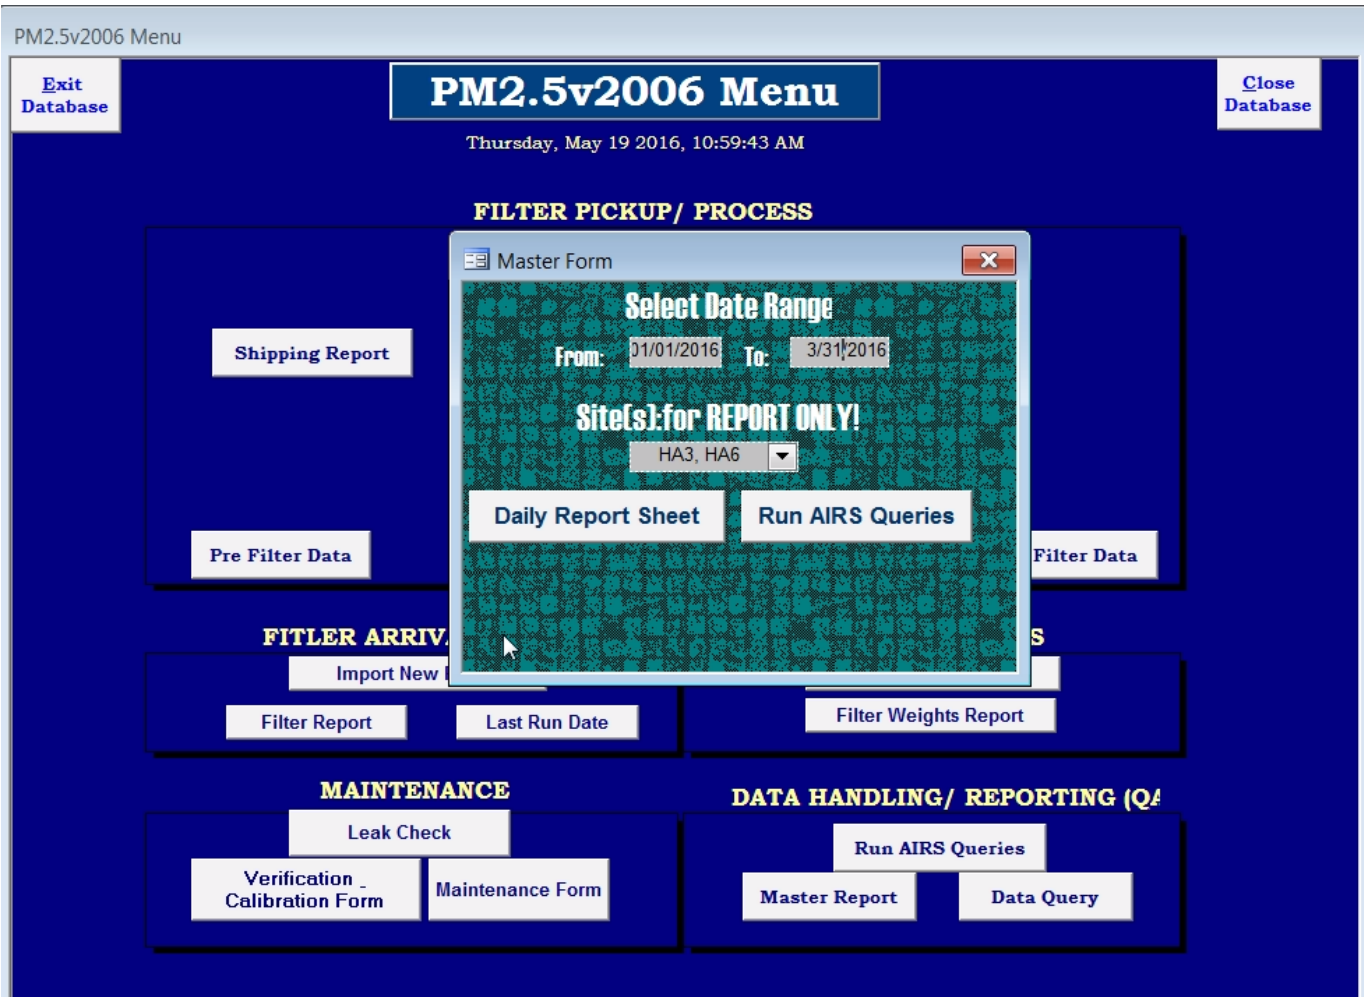

Figure 36: Master Form Input
6.6.1.3 Select the preferred site(s) (HA3 & HA6) (see Figure 36). Press the “Daily Report Sheet” button and review each sheet (see Figure 37). Confirm all parameters, especially “total sample time,” “total volume,” “CV%,” “total flow rate,” and “comments” are listed and within the parameters listed on the “Daily Report Sheet.” Verify filter weight cell is populated. If ALL the parameters are within the specified range and the filter weight is there, then the sample is considered VALID, otherwise, the sample is INVALID. The filter weight for ALL INVALID samples can not be used. In addition, ALL INVALID samples MUST have comment specifying the problem(s) leading to the INVALID sample.